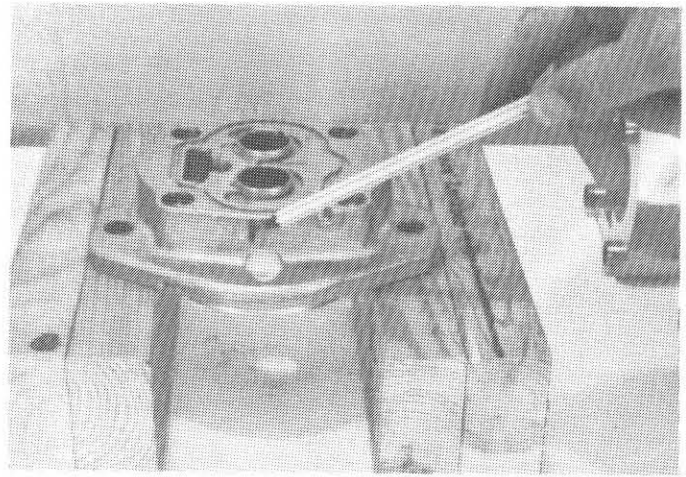

FIG. 18
27. Examine flange plate (1) and make sure shaft seal (6) and snap ring (7) have been properly installed. With the o-ring groove facing up and the matching mark you made in step 2 facing toward you, place the flange plate on the blocks with the seal centered between them. (Fig 18)